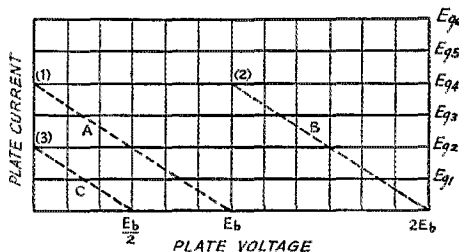

FIG. 1—PLATE FAMILY OF AN IDEAL PENTODE
First, it may be stated that it is not entirely impossible to plate-modulate the ordinary pentode. The characteristic curves of an ideal pentode are shown in Fig. 1. For fixed control-grid and screen voltages the plate current is constant for any value of plate voltage. Suppose such a tube were operating Class-C at a d.c. plate potential, E_b , a constant peak excitation, E_{p4} , and a fixed screen voltage and load, so that the plate current pulse flowed over some line, *A*, and the peak of the pulse occurred at (1). If the d.c. plate voltage is doubled the plate current pulse will flow over line, *B*, and peak at point (2). The peak current is unchanged, the fundamental component will be relatively unchanged, and there would be no increase in output. However, if the d.c. voltage is decreased to the value, $\frac{E_b}{2}$, the plate current